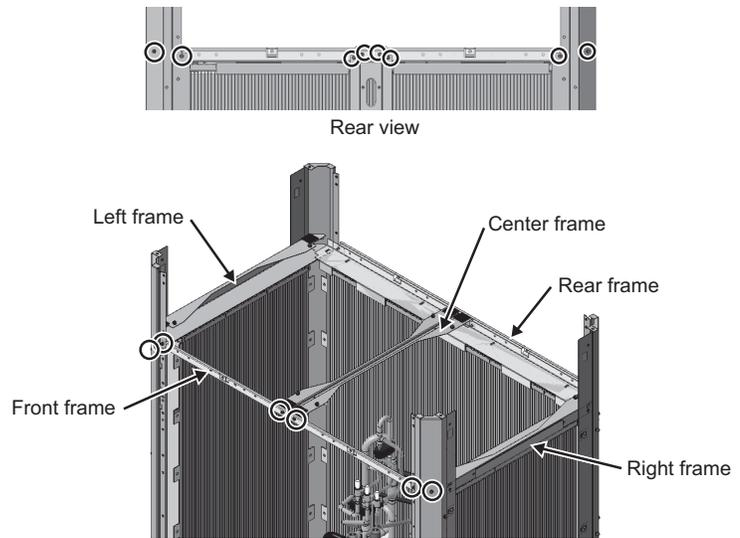

Fig. 39
(11) Remove each frame on the top of the unit. At this time, remove the screws from all frames before removing the frames. (Two screws on each of the front, rear, right, and left frames, and six screws on the center frame: Fig. 39)